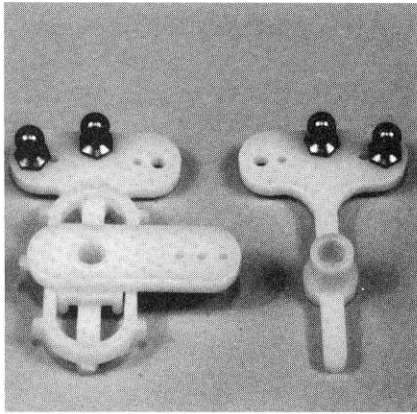

Fig. 21
- ☐ **Fig. 21** and install it to the servo saver, as shown.